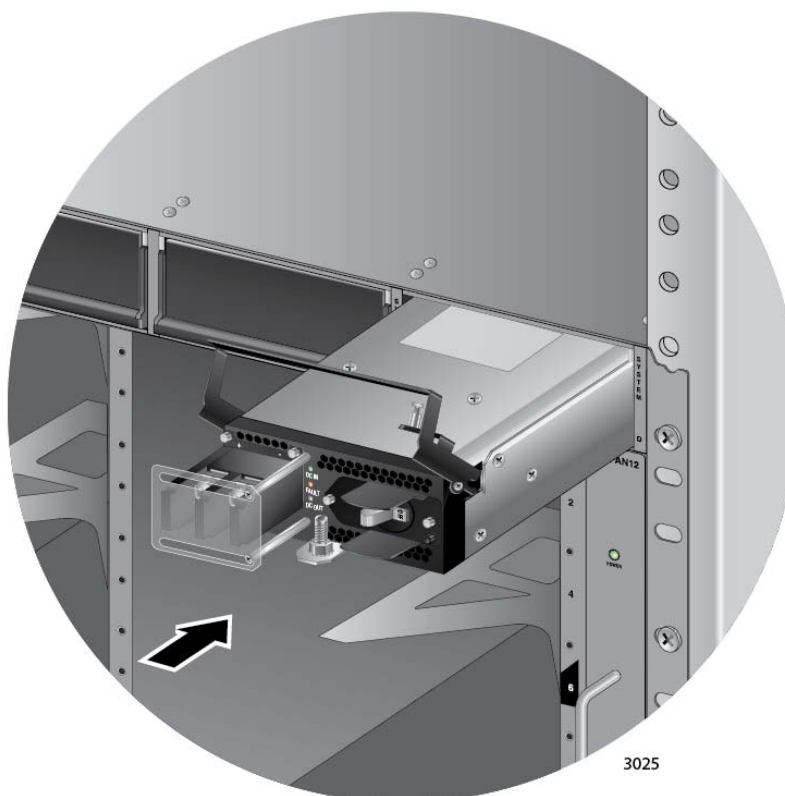

Figure 57. Inserting the AT-SBxPWRSYS1 DC System Power Supply
7. Align and insert the AT-SBxPWRSYS1 Module into slot C or D. Figure 57 shows the power supply installed in slot D.